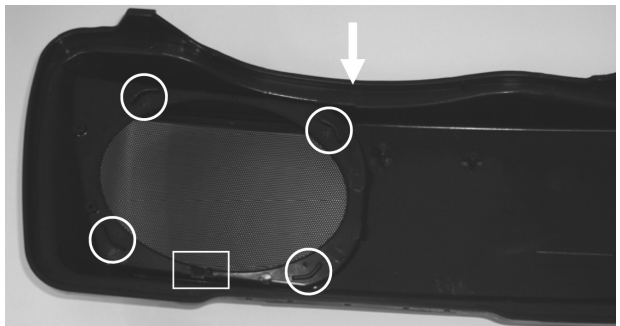

Figure 1.5
2. The white arrow in Fig 1.5 shows where we suggest you start applying the gasket. Be careful not to stretch the gasket when applying. When all the way around, you can expect to have approx. 2.0” (5cm) left over to cut off (a sharp razor knife is suggested for this).
Locate the black “gummy” material supplied in the kit and use it to seal the hole shown in Fig 1.5 by the white rectangle. The 4 white circles in Fig 1.5 shows “locators” built into the lid to fit the KENWOOD XM69R speakers when used. Use the supplied 6 x 9 gasket (which is approximately 3/8” (9mm) thick) as a “shim” between the speakers and the lid. Locate the bag that came with your kit that has 8 Phillips head screws and use those (4 per lid) to secure your speaker to the lid. USE HAND TOOLS FOR THIS.